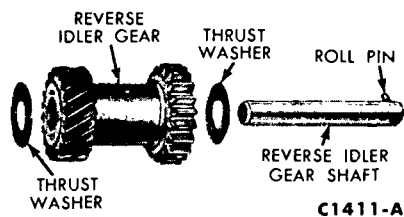

FIG. 11—Reverse Idler Shaft and Gear — Disassembled
The countershaft (cluster) gear and thrust washers (Fig. 11) can be lowered to the bottom of the case. Remove the countershaft from the rear of the case.
21. Driving from the front of the case, remove the reverse idler gear shaft from the case and then lift the reverse idler gear and two thrust washers (Fig. 11) from the case.
2. Coat the reverse idler gear thrust surfaces in the case with a thin film of lubricant and position the two thrust washers (Fig. 11) in place.